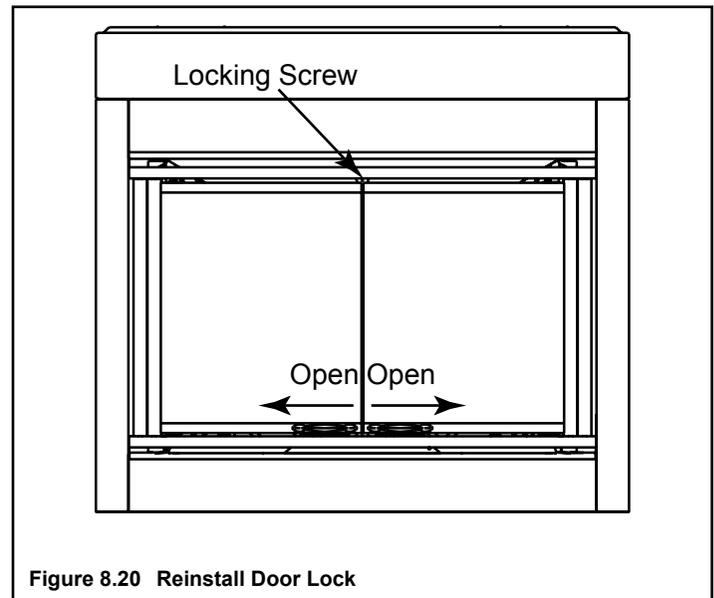

Figure 8.20 Reinstall Door Lock
- To adjust doors (door lock screw must be removed, see Section 4.A. and Figure 8.20), open them and loosen screws on top and bottom pivot pins. Slide each door as necessary and tighten screws.